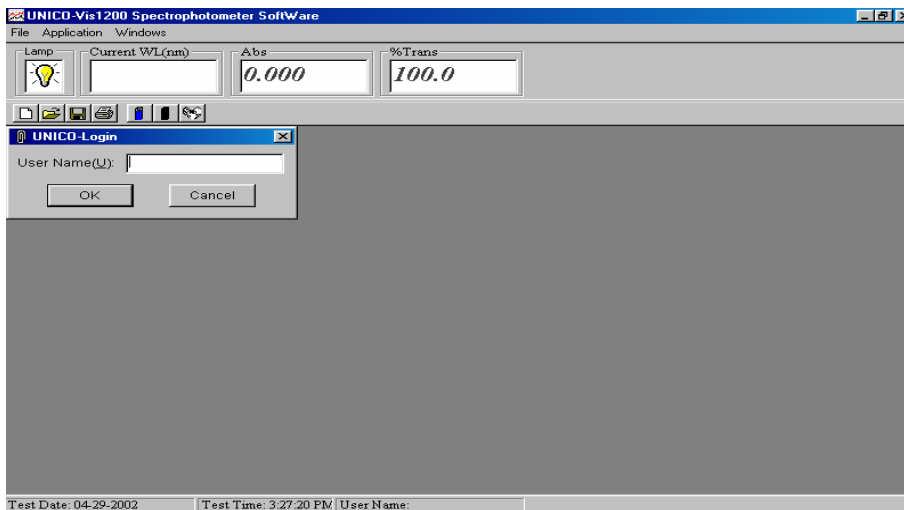
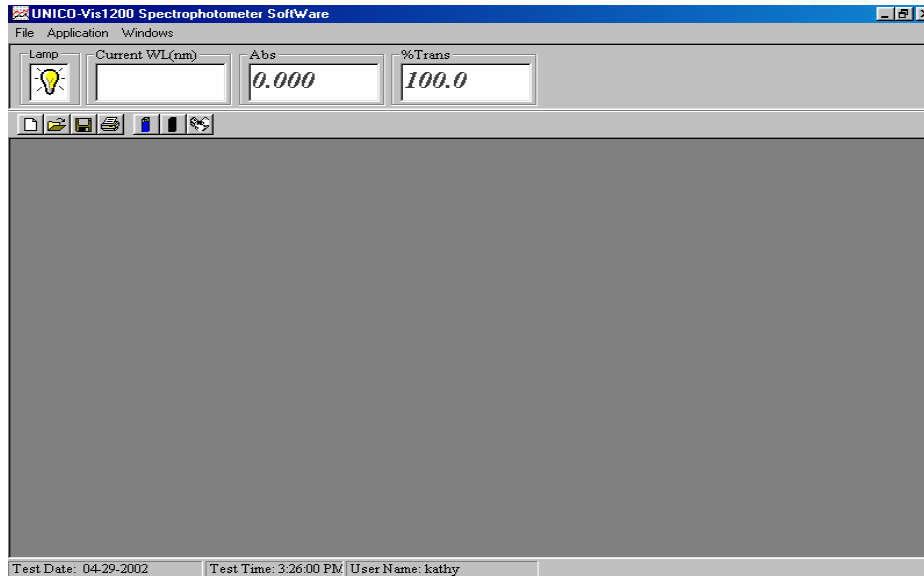
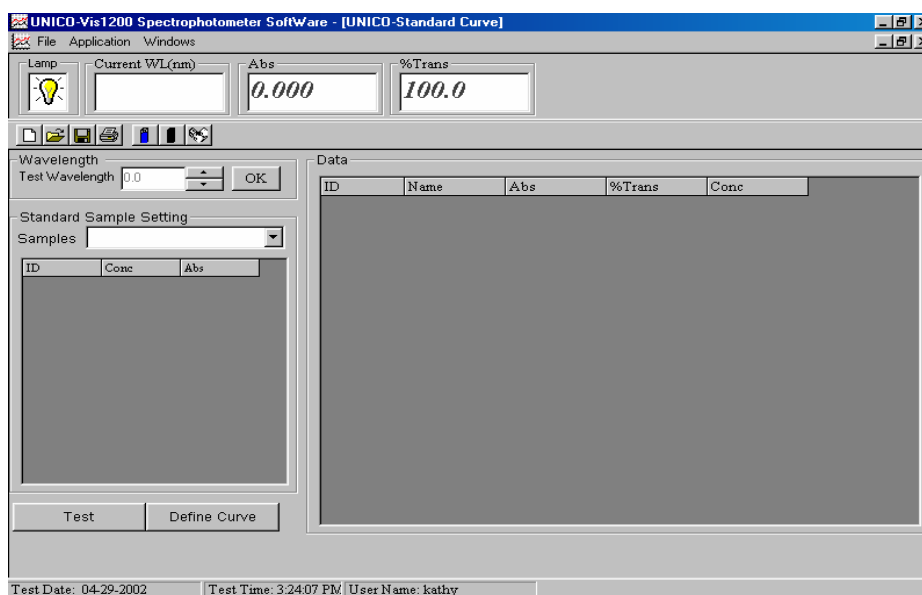

Figure-12 Main Screen Display
Figure-13 Main Screen Display After User Login
Figure-29 Standard Curve Setup
- Step 7: Push the **ENT** key on the **1200/1201** panel, select the proper port, and then click **OK** on your Computer Screen. The **VIS1200** will initialize and go to the main screen (Figure-12).
After your 1200/1201 is connected to your PC, and VIS1200 is running, your PC will show the **Main Screen Display** like Figure-12. Type your **User Name** in the Text Field at the right of the **User Name (U):** label or leave it blank, then click the **OK** button to login as Figure-13 shown.
At the **Main Screen** (Figure-13), click **Application Drop-down Menu**, and click **A/%Trans/Conc** (Figure-15) to enter the **Main Screen of A/%Trans/Conc** (Figure-20).
At the **Main Screen** (Figure-13), click **Application Drop-down Menu**, and click **Standard Curve** (Figure-15) to enter the **Main Screen of Standard Curve** (Figure-29).